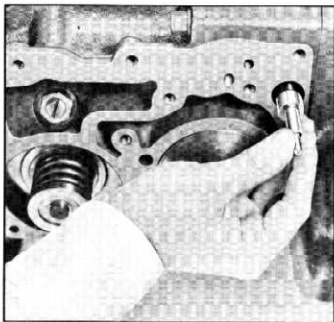

Fig. 68—Removing Pressure Regulator Valve
11. Remove reverse servo spring and pressure regulator springs and remove pressure regulator valve (fig. 68).